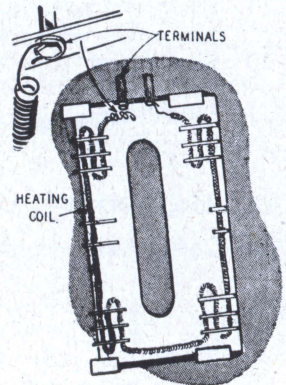

Fig. 19
This repair can be made only when the break is close to the terminal. Fig. 19.
- b. Fasten around terminal in direction screw or nut tightens. Fig. 19.